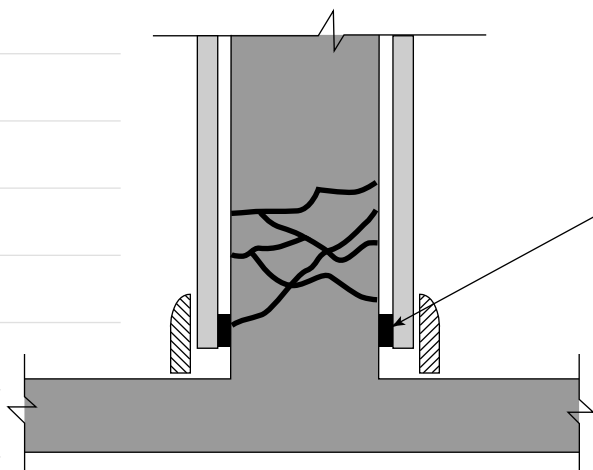

FIGURE 10
- ◆ Seal all obvious fissures or holes with grout or plaster before finishing the wall. Seal the gap at the bottom of the drywall for extra security (see Figure 10).